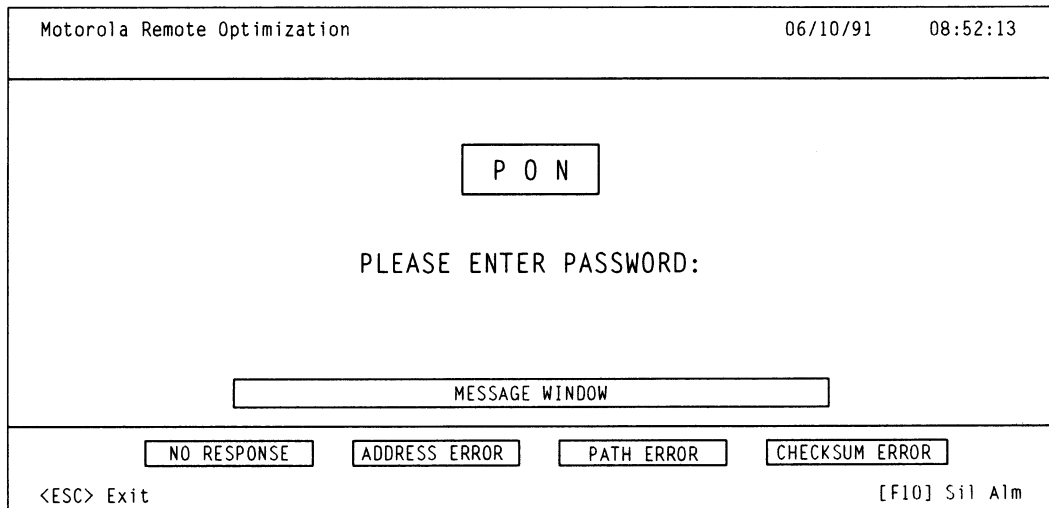

Figure 14. PON Password Screen
- Step 2. At the user name prompt, type your user name. The password screen appears as shown in Figure 14. Refer to *Alarm List* to define the alarm windows shown in this screen.